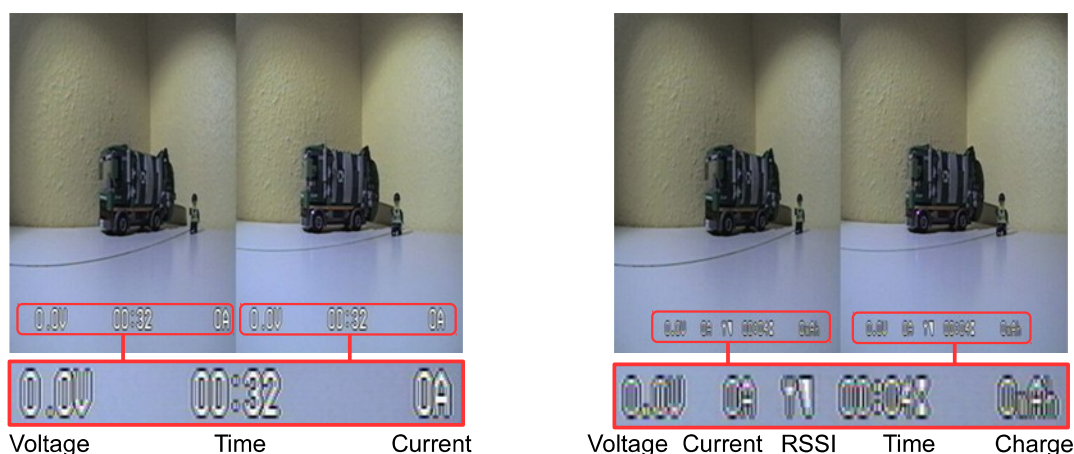

Figure 3: OSD of firmware version 2.1 (left) and 2.3 (right)
5. Activate RC-vehicle and ground station to observe the transmitted FPV video signal. The RSSI-symbols (see Figure 3) in the OSD should be invisible.